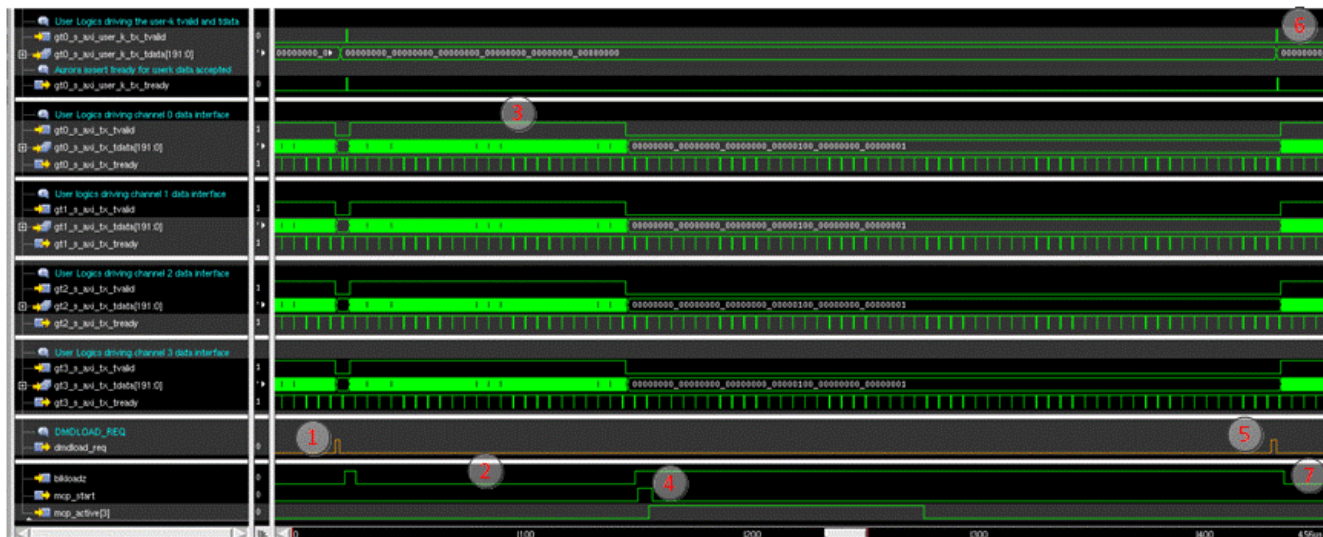

Figure 7-6. DMDLOAD_REQ Delayed Assertion Waveform
- It is not necessary for the APPS FPGA to immediately assert DMDLOAD_REQ after sending a DMD data block. The APPS FPGA may send the DLPC964 Controller a DMD data block and then delay the assertion of DMDLOAD_REQ until the system is ready for the DMD be loaded. Figure 7-6 describes this operation.